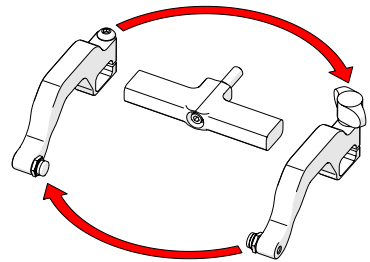

Fig. 181 - Reverse position around yoke
4. Position removed arms to opposite sides of the yoke (*Fig. 181*).